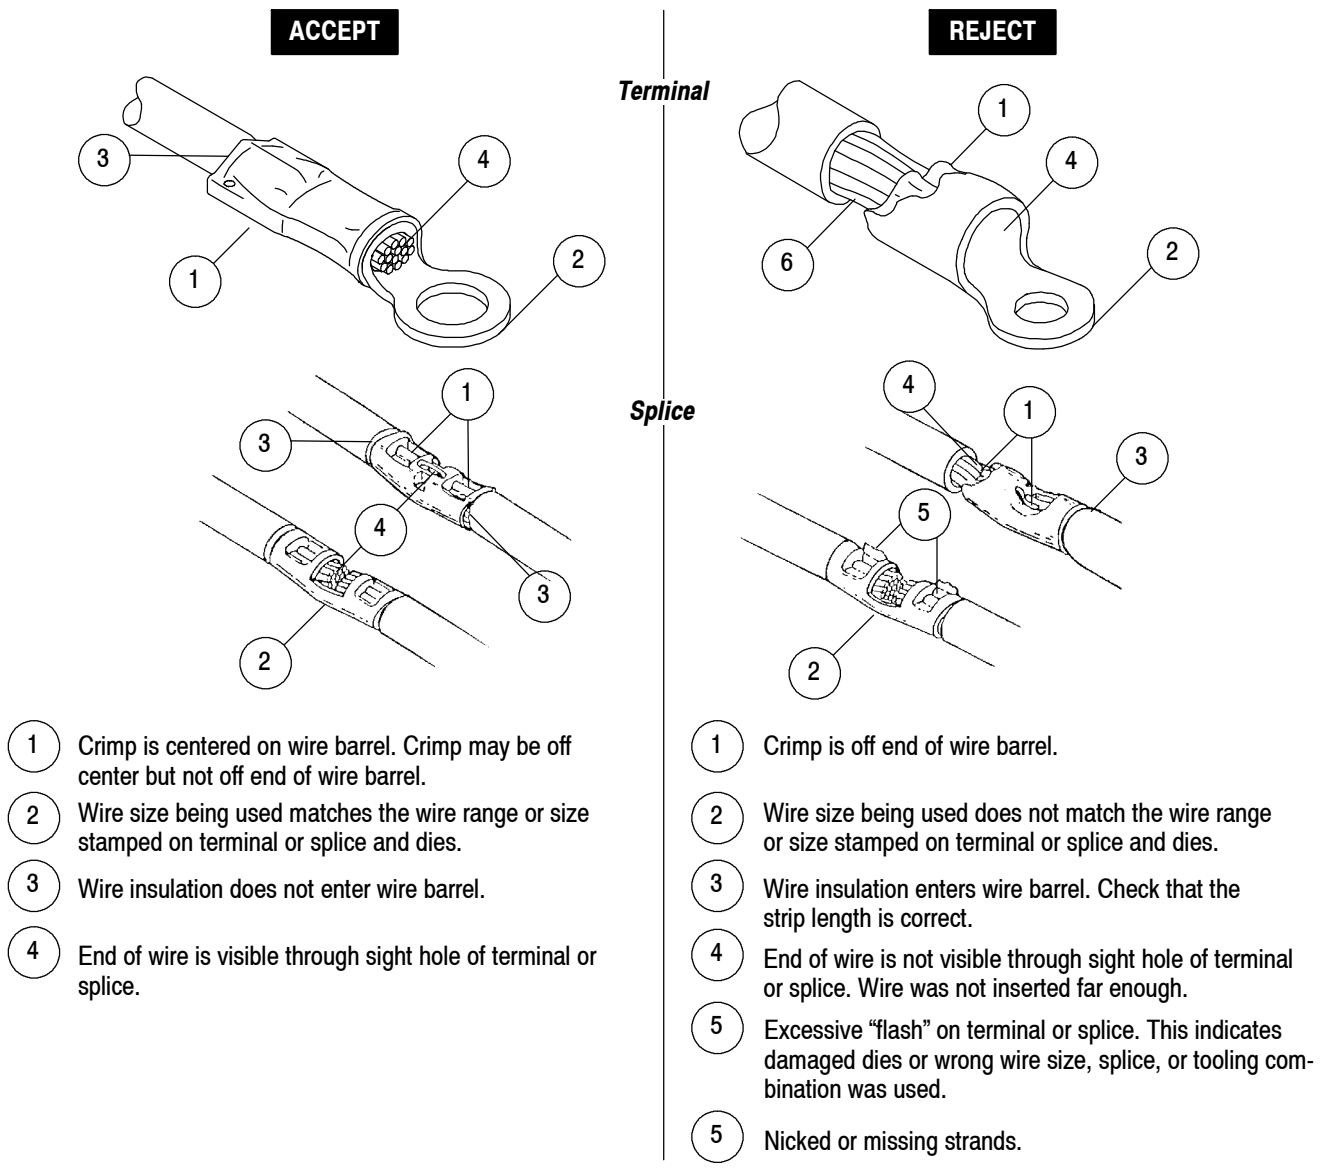

Figure 5
9. Inspect the crimp according to Figure 5. This is included as an aid to the tool operator **ONLY**. It is not intended to serve as a quality control inspection for qualifying finished crimps on these terminals and splices. Use only terminals or splices that meet the conditions shown in the **ACCEPT** column. Terminals and splices displaying the features shown in the **REJECT** column can be avoided by careful use of these instructions and by performing the maintenance and inspection procedures described in Section 5.